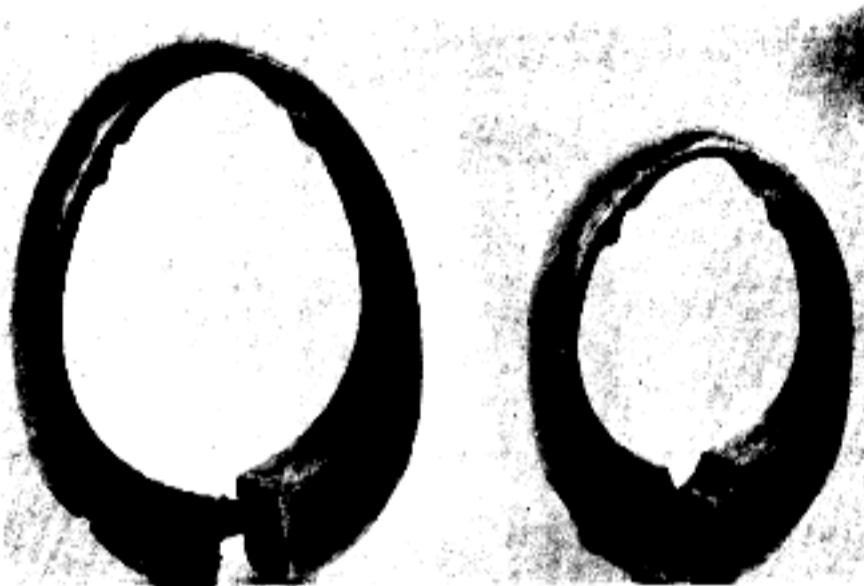

FIGURE 10. STOCK BANDS FOR RIFLE M1891.
- d. The two stock bands (fig. 10) are screw expanded (turn to the right to expand and to the left to close). The upper band is at the forward end of the handguard (fig. 11). The lower band is 2 inches forward of the rear sight.